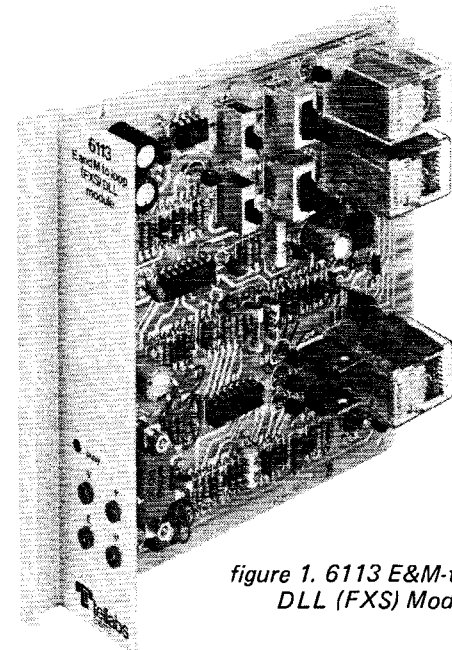

figure 1. 6113 E&M-to-Loop DLL (FXS) Module
1.01 The Tellabs 6113 E&M-to-Loop Dial Long Line (Foreign Exchange, Station End) Module (figure 1) provides conversion between E&M signaling and the loop signaling used at the station end of a foreign-exchange (FX) or off-premises-station (OPS) circuit. Specifically, the 6113 converts E-lead signals to loop supervisory and ringing signals toward the station and converts outgoing loop signaling from the station to M-lead outputs. The 6113 is typically used in a 2wire circuit with an associated term set or repeat coil. The resulting two-module arrangement provides facility signaling, loop signaling, and conversion between the two signaling modes at the station end of an FX or OPS circuit.